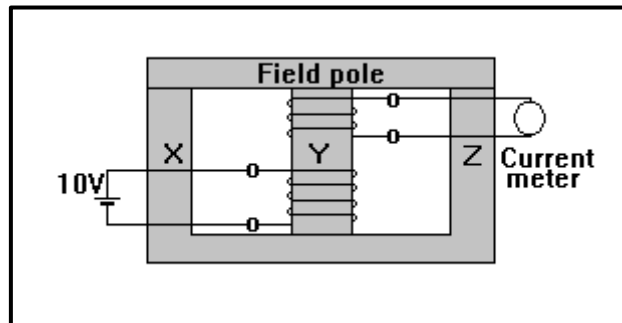

Figure 6.3
4. Make the connection as shown in Figure 6.3